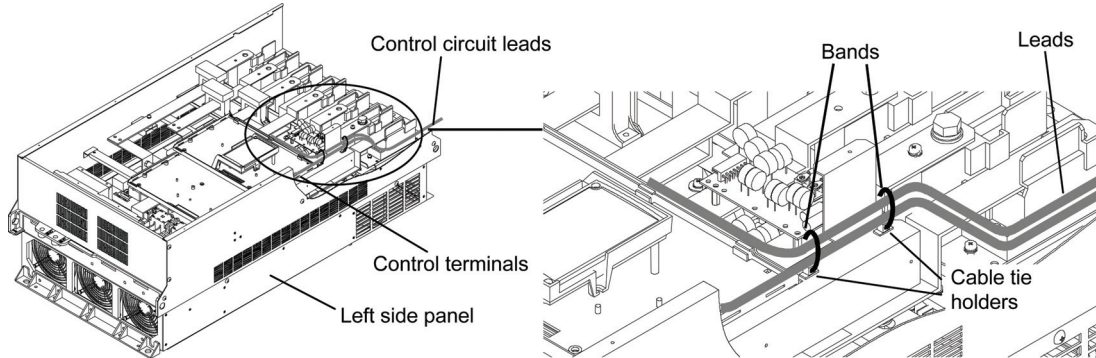

Figure 3-3-16
- (a) Pull the wiring out along the left side panel as shown in Figure 3-3-16.